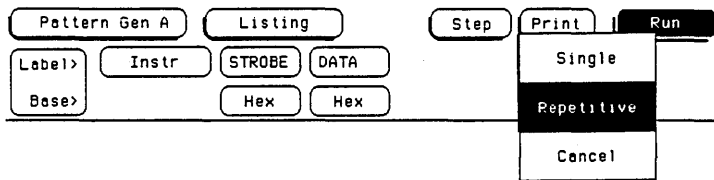

Figure 3-22. Run Repetitive Mode
- l. Touch **Run**, then drag finger to **Repetitive** as shown in figure 3-22.